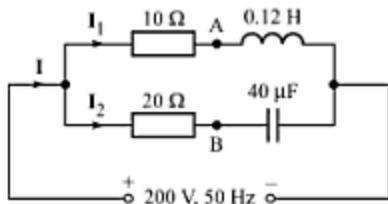

Fig. C-84
- C-140.** Two circuits A and B are connected in parallel across 200-V , 50-Hz power mains, as shown in Fig. C-84. Calculate (a) the source current (b) the current in each branch, and (c) the power factor. Draw the phase diagram.